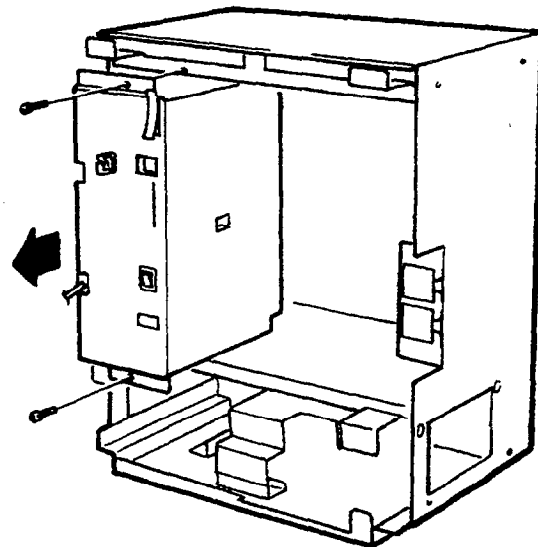

Figure 3-29 Installing the PSF-S-20 PSU in the Level II Expansion KSU
1. Mount the PSF-S-20 PSU in the left slot of the Expansion KSU and secure using the two provided bolts. Refer to Figure 3-29 - Installing the PSF-S-20 PSU in the Level II Expansion KSU.